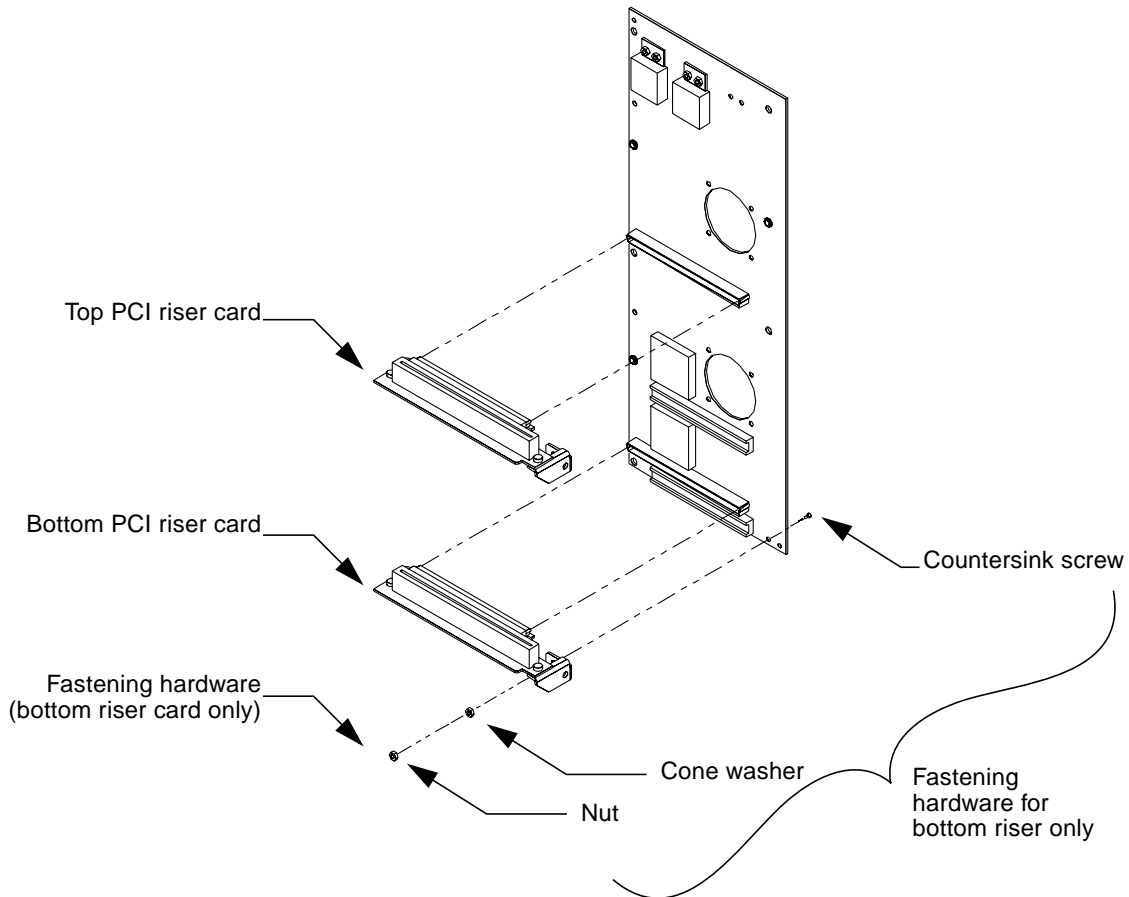

FIGURE 12 PCI Riser Card Components
3. When installing the bottom riser, use the fastening hardware as shown in FIGURE 12 on page 12, torque to a setting of 0.6 Nm (5.3 inch pounds)